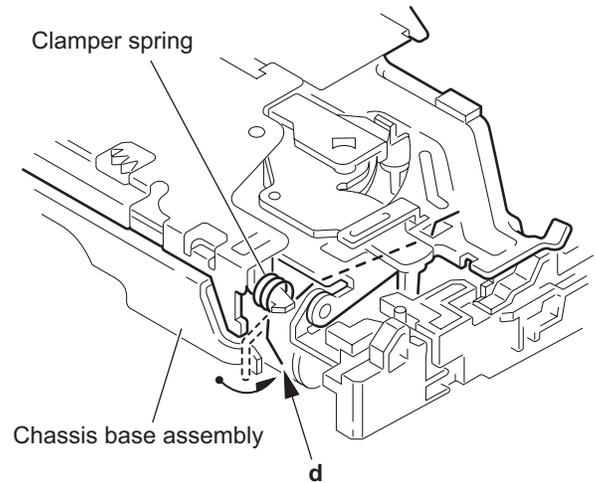

Fig.7
- (2) Release the part **d** of the clamper spring from the bending part of the chassis base assembly. (See Fig.7.)
- (3) Move the part **d** of the clamber spring to the outside of the bending part of the chassis base assembly. (See Fig.7.)